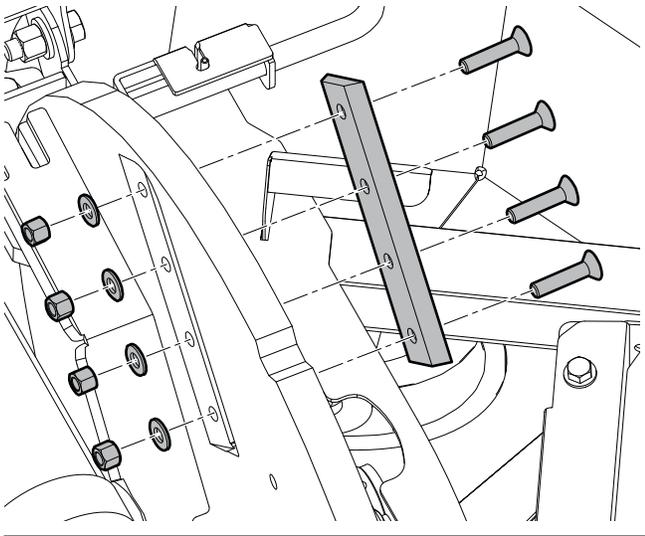

Figure 44—Install a rotor knife
11. Install the rotor knife fasteners. See *Figure 44* on page 61.